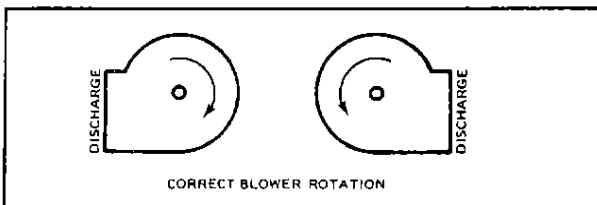

FIG. 22 - BLOWER ROTATION
Check for correct blower rotation on three phase models. See Fig. 22. Correct by interchanging any two of the power supply connections.
1. The blower should be providing a strong discharge airflow. ON THREE PHASE MODELS, THE BLOWER SHOULD BE ROTATING IN THE DIRECTION SHOWN IN FIG. 22. If it isn't, correct rotation by interchanging any two power supply leads.